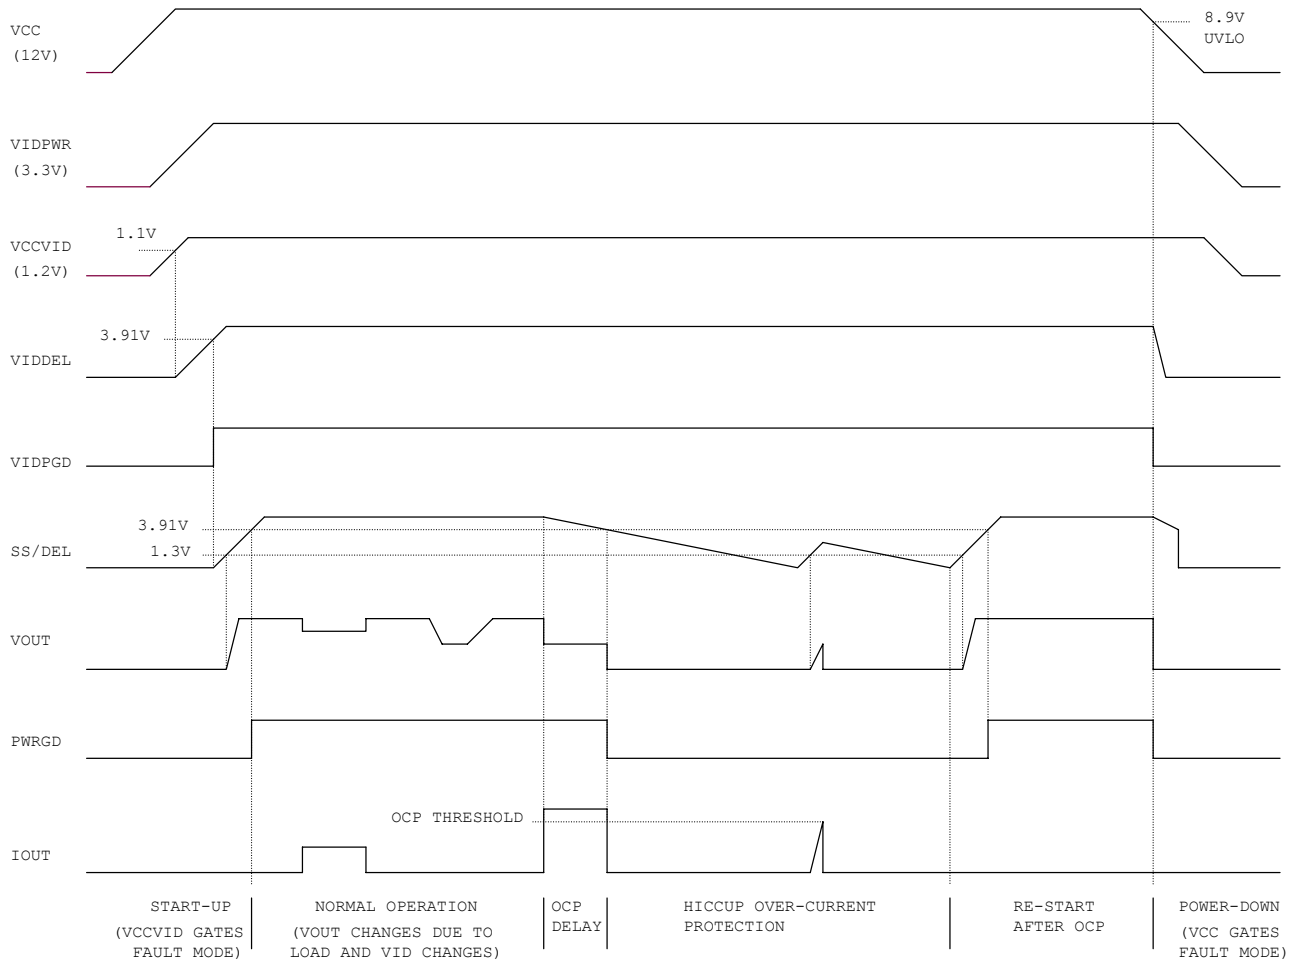

Figure 11. Operating Waveforms
Figure 11 depicts the various operating modes as controlled by the SS/DEL function. If there is no fault, the SS/DEL capacitor pin will begin to be charged. The error amplifier output is clamped low until SS/DEL reaches 1.3V. The error amplifier will then regulate the converter's output voltage to match the SS/DEL voltage less the 1.3V offset until it reaches the level determined by the VID inputs. The SS/DEL voltage continues to increase until it rises above 3.91V and allows the PWRGD signal to be asserted. SS/DEL finally settles at 4V, indicating the end of the soft start.
The SS/DEL pin voltage controls the slew rate of the converter output voltage, as shown in Figure 11. After the VIDDEL pin voltage rises above 3.91V, there is a soft-start delay time t_{SSDEL} , after which the error amplifier output is released to allow the soft start. The soft start time t_{SS} represents the time during which converter voltage rises from zero to V_O . t_{SS} can be programmed by an external capacitor, which is determined by Equation (2).